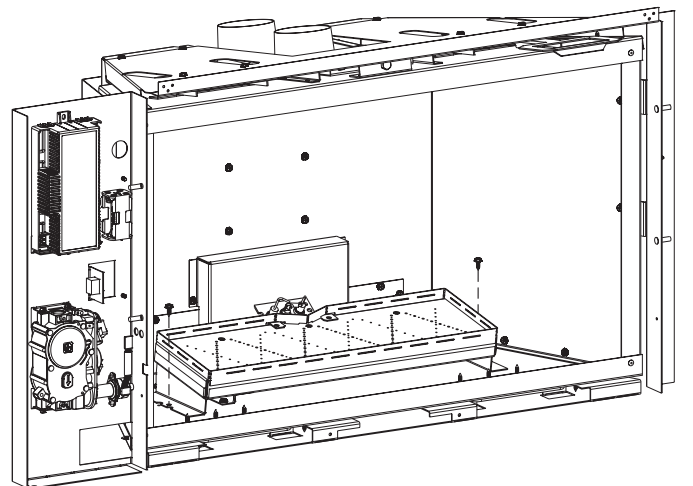

Figure 45
13. Remove the left and right screws securing the burner to the firebox. **See Figure 45.**